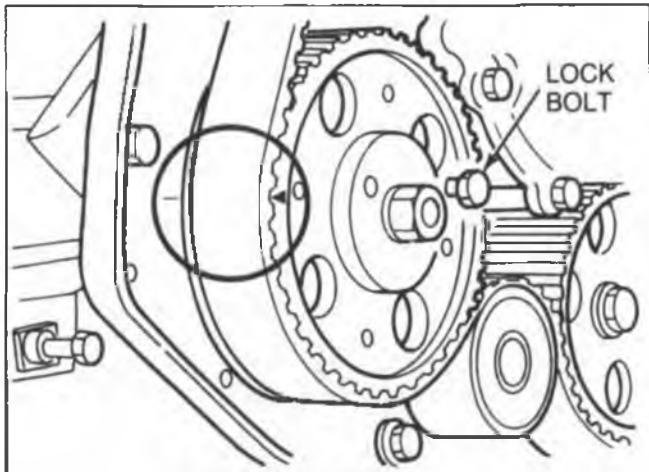

Fig. 4-30 Alignment Mark and Lock Bolt
13. Remove 4 bolts attaching the pump rear bracket and remove the rear bracket (Fig. 4-30).
3. Install the injection pump pulley by aligning it with the key groove. Align the mark on the gear with the mark on the front plate (Fig. 4-30). Then install lock bolt ($M8 \times 1.25$). Tighten the nut using the lock bolt to prevent turning of pulley, torque nut to $60 \text{ N}\cdot\text{m}$ (45 ft. lbs.).